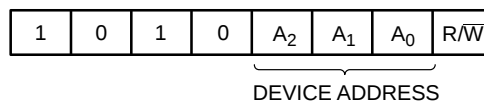

Figure 3. Slave Address Bits
The Master addresses a Slave by creating a START condition and then broadcasting an 8-bit Slave address. For the N24C32, the first four bits of the Slave address are set to 1010 (Ah); the next three bits, A₂, A₁ and A₀, must match the logic state of the similarly named input pins. The R/ $\overline{W}$ bit tells the Slave whether the Master intends to read (1) or write (0) data (Figure 3).